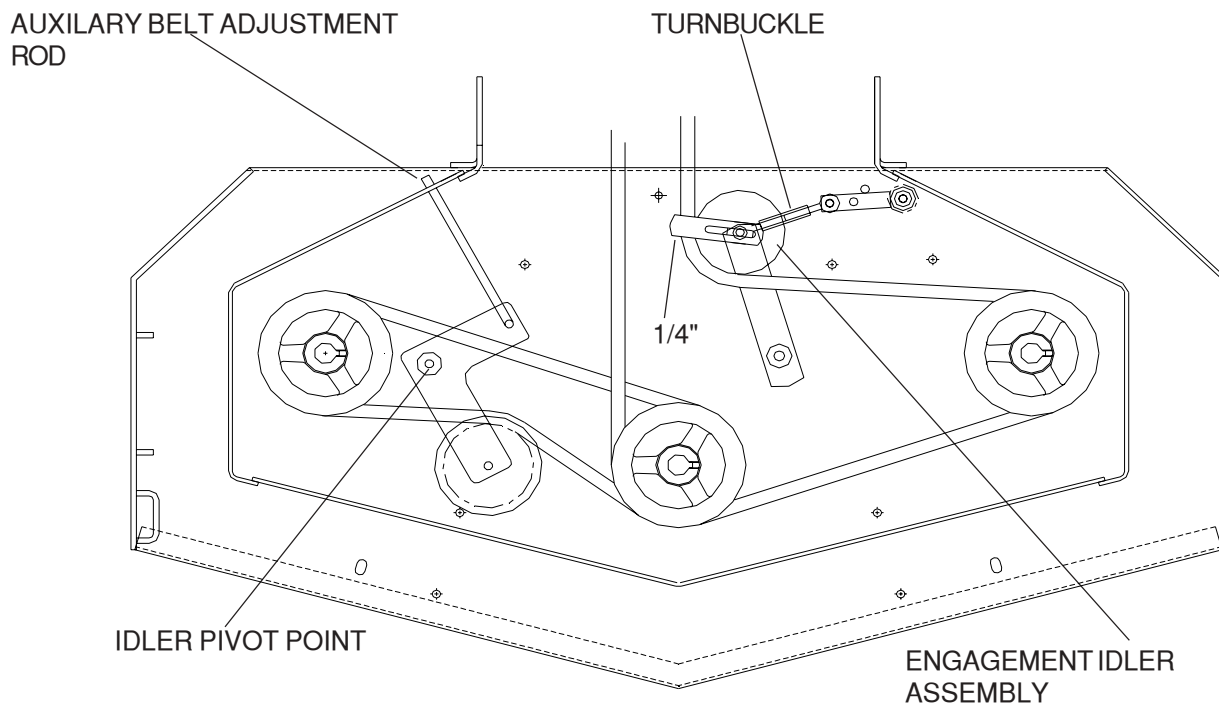

Figure 5
5. To increase belt tension rotate turnbuckle toward the rear of the mower until desired tension is gained. Do not over tighten belts, to much tension will reduce belt and spindle bearing life. (see fig. 5)
2. To adjust tension on the auxiliary belt rotate nut on linkage that is attached to deck strap located on the right side of cutter deck. (see fig. 5)